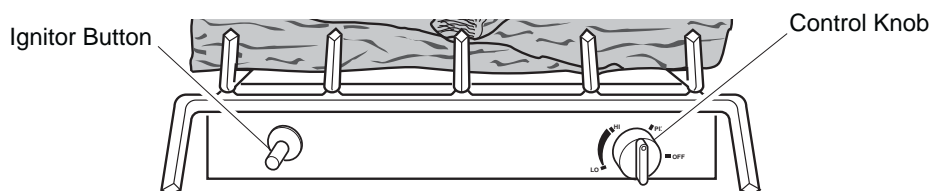

Figure 22 - Control Knob and Ignitor Button Location
4. Wait five (5) minutes to clear out any gas. Then smell for gas, including near the floor. If you smell gas, STOP! Follow "B" in the safety information in column 1. If you don't smell gas, go to the next step.
5. Slightly depress and turn control knob counterclockwise to the PILOT position. Keep control knob pressed in for five (5) seconds (see Figure 22).